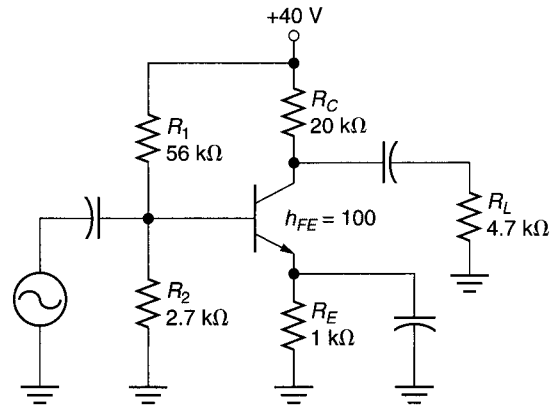

FIGURE 11.51
16. Calculate the maximum efficiency for the amplifier in Figure 11.51.